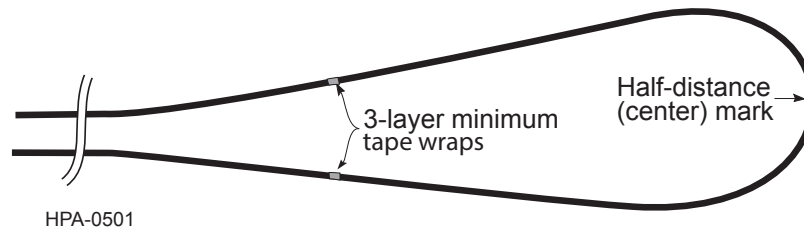

Figure 17
- Step 4:** Wrap each of these points with at least 3 wraps of vinyl tape. The total length from tape wrap to tape wrap should equal the full desired strip length (Figure 17). **These wraps will permanently remain on the cable.**